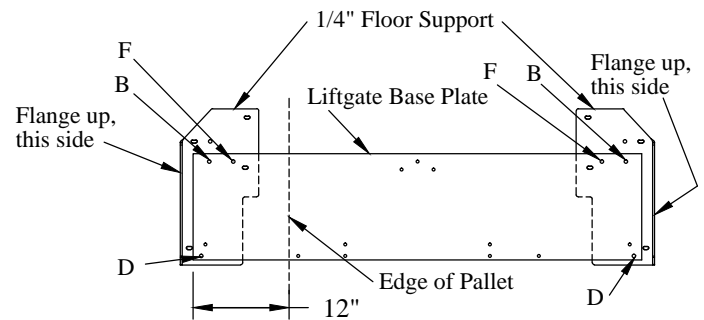

Figure 9: Floor support locations (top view).
3. **Lower** the liftgate onto the pallet with 12" of one side extending beyond the pallet (Figure 9).